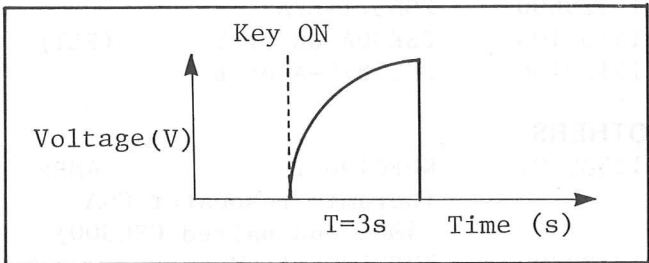

Fig. 38
- Adjust ENV TIME VR6 of CH1 for 3-second attack time from pressing of key. (Fig. 38)